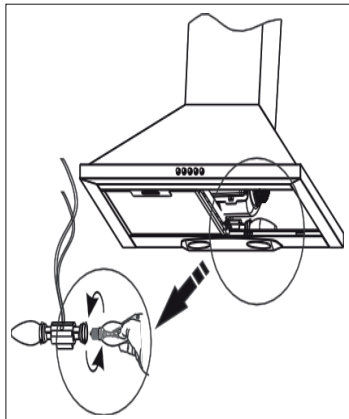

Figure 10
- Remove the non-working lamp from its location as shown in Figure 10.